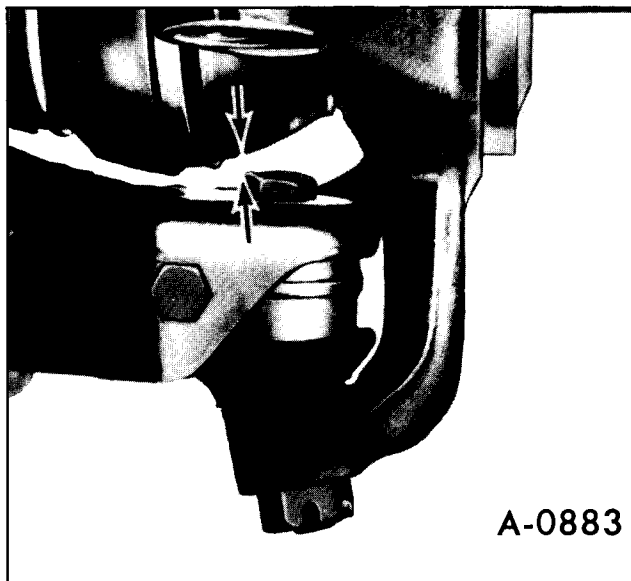

Figure 29—Checking Clearance
3. Check clearance from ball joint nut to drive axle outer joint as shown in Figure 29. If no clearance is obtained, it may be necessary to grind off nut but not more than 1/16".